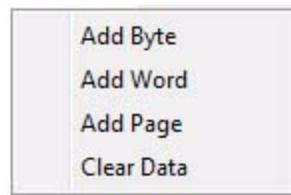

Figure 14. Add Context Menu
2. An Add menu is displayed; select an option (see Figure 14). Any options that would exceed the buffer length will be unavailable.